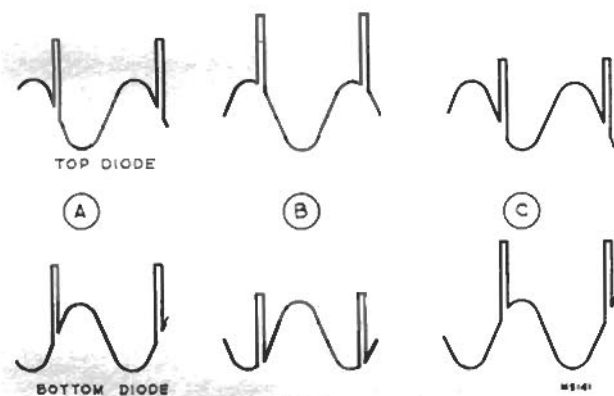

Figure 8—Sync Discriminator Waveforms
Coils L1 to L9 and L2 to L10 are unusual in that they are wound in figure 8 fashion on fingers protruding from the switch wiper. This winding form produces a relatively non-critical coil since the coupling between turns is minimized. A maximum amount of wire is used for the small inductance which is required, thus permitting greater accuracy in manufacturing.
R-F Oscillator—The oscillator line is similar except that trimmer adjustments are provided for each channel and the low frequency coils are not figure 8 windings. For tuning each channel, brass screws are used in close proximity to the high frequency tuning straps L66 to L76, and brass cores are adjusted through coils L54 to L62. It is obvious that the high frequency adjustments should be made before each lower frequency one.
The sine wave oscillator voltages applied to the plates of V123 are equal in amplitude and opposite in phase. The synchronizing pulses from the second sync amplifier are fed through a differentiating network to attenuate the vertical sync and then applied to the center tap of T108. The horizontal sync pulses thus appear in phase and of equal amplitude on the diode plates as shown in Figure 8. When the pulse and sine wave are properly phased as in (A), both diodes will produce equal voltage across their load resistances, R191 and R192. However, these voltages are of opposing polarity and therefore the sum of the voltages across these two load resistors will be zero. If the phase of the pulse changes with respect to the sine wave as in (B), the top diode will produce more voltage across R191 than the bottom diode produces across R192. Thus, the voltage across the two will be positive. In (C) the reverse condition exists. It is obvious that the output of the discriminator can swing from positive through zero to negative dependent upon the phase relation of the synchronizing signal and the oscillator. This d-c output is applied to the grid of V124.